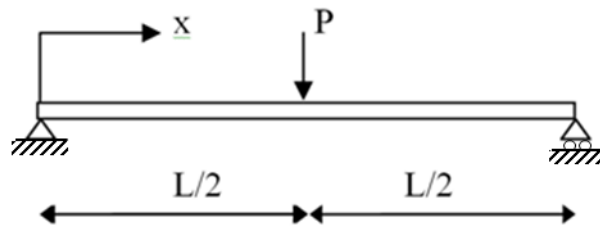

Figure Q5b
- b. The simply supported uniform beam shown in Figure Q5b has a fully-plastic moment M_p .